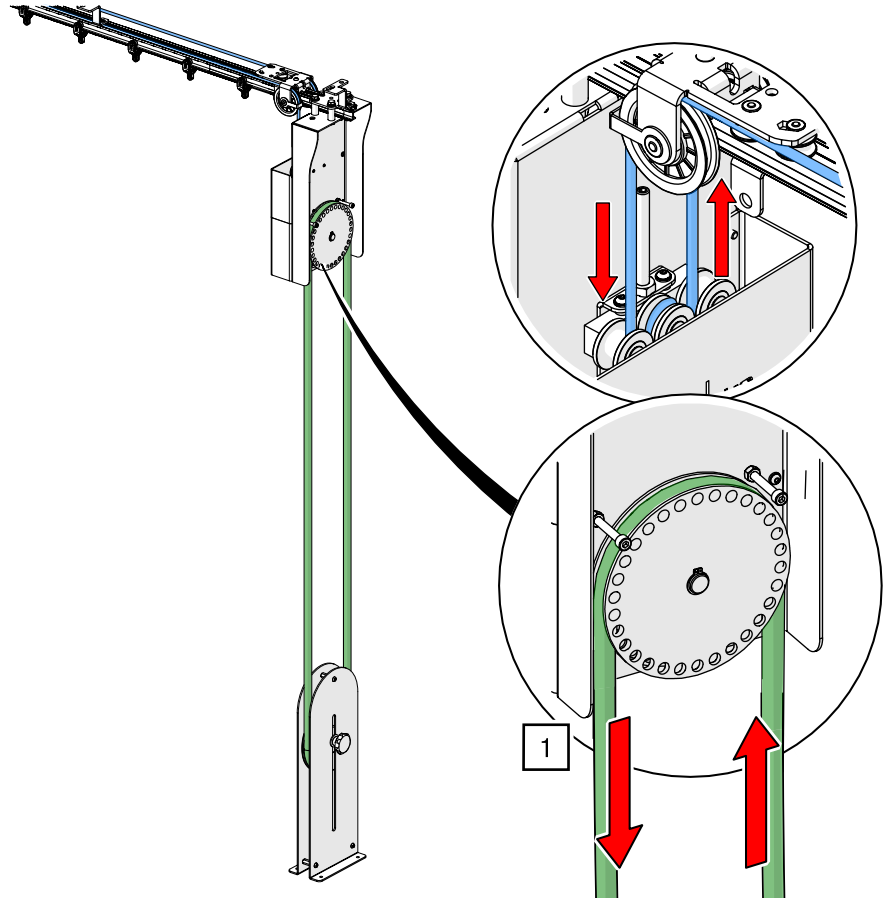

Fig. 139: ROPE-DRIVE – Operation
1. Depending on the desired direction of travel of the attached load, pull the hemp rope down on the left or right side (see Fig. 139).